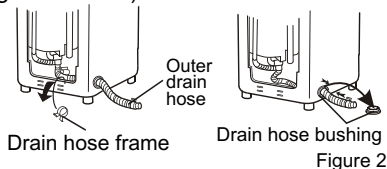
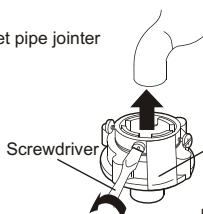
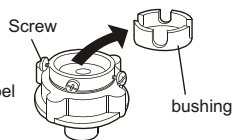

Figure 1
Figure 2
Figure 3
2. Put down the drain hose. Take off the drain hose frame. As indicated in Figure 1, put the drain hose into the cabinet. Then stretch one hand into the cabinet to nip the claw of the drain hose bushing to remove the claw from original position. Take off the drain hose bushing with the other hand. (As indicated in Figure 2 and 3).
2. Loosen the screw till the water tap can be accessed. Put the jointer of the water inlet hose on the tap. See to Figure 2. (If the tap diameter is too large and the jointer can not be set on the water tap, please loosen the four screws and take out the bushing in the jointer. See to the figure 3.)